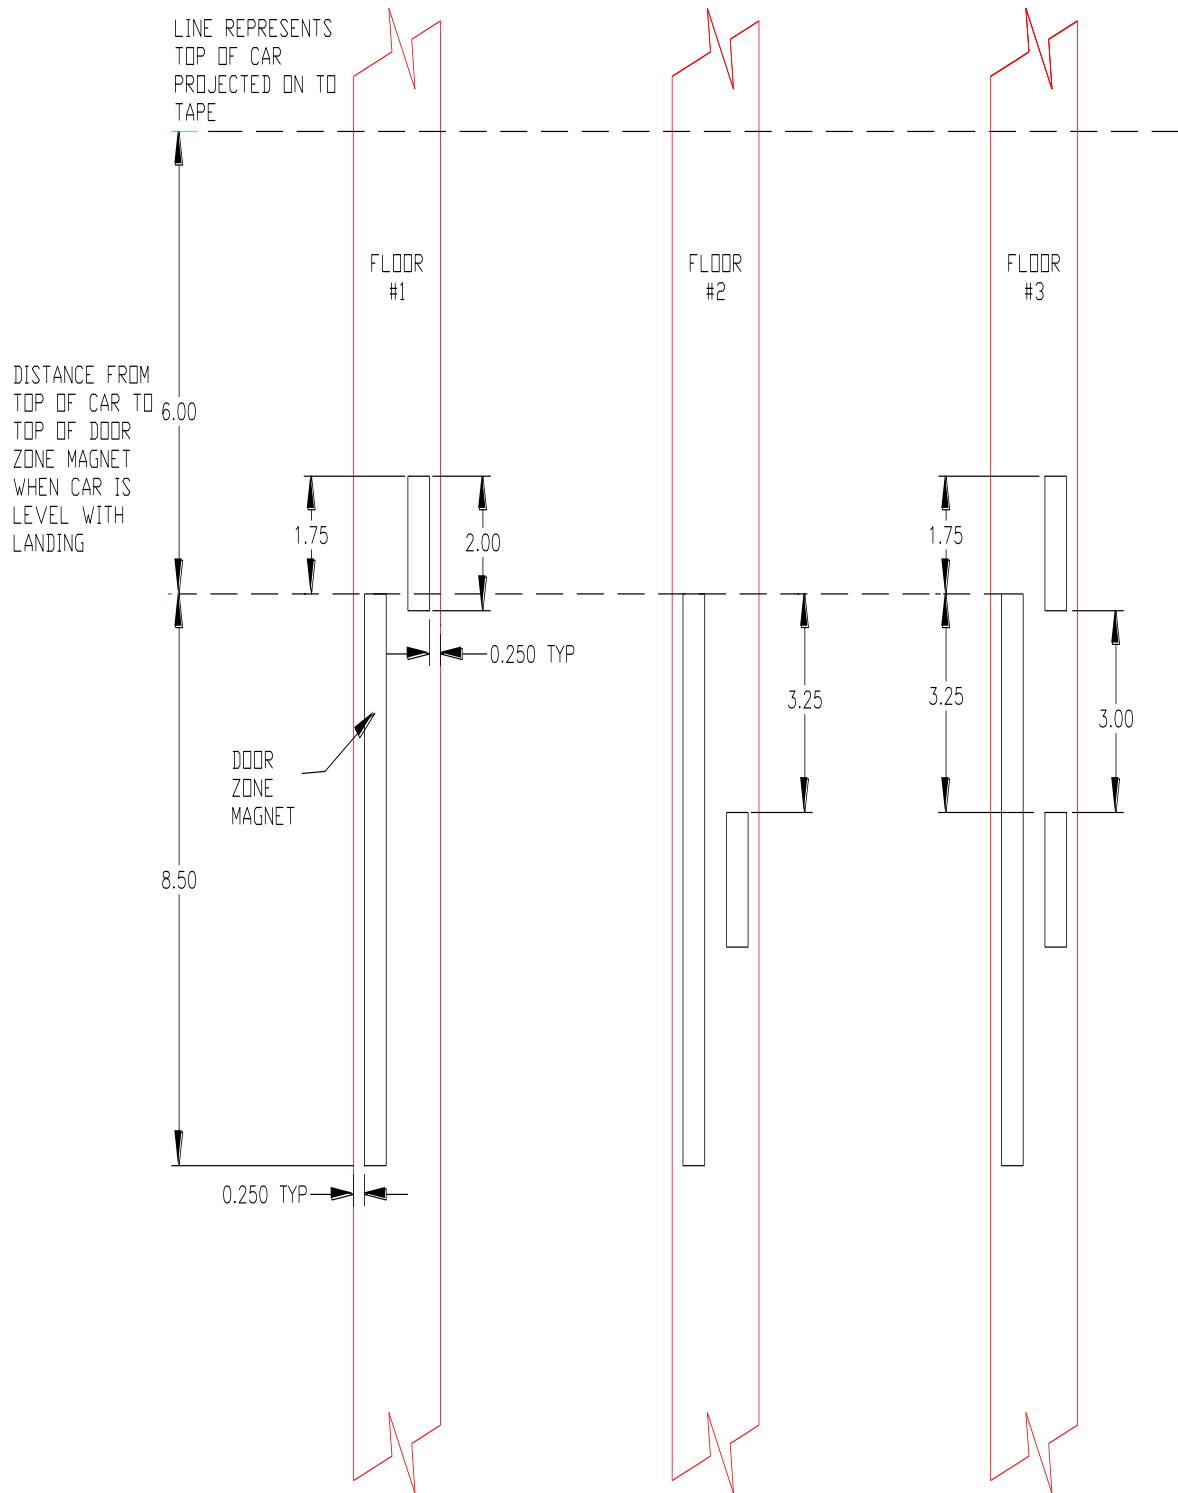
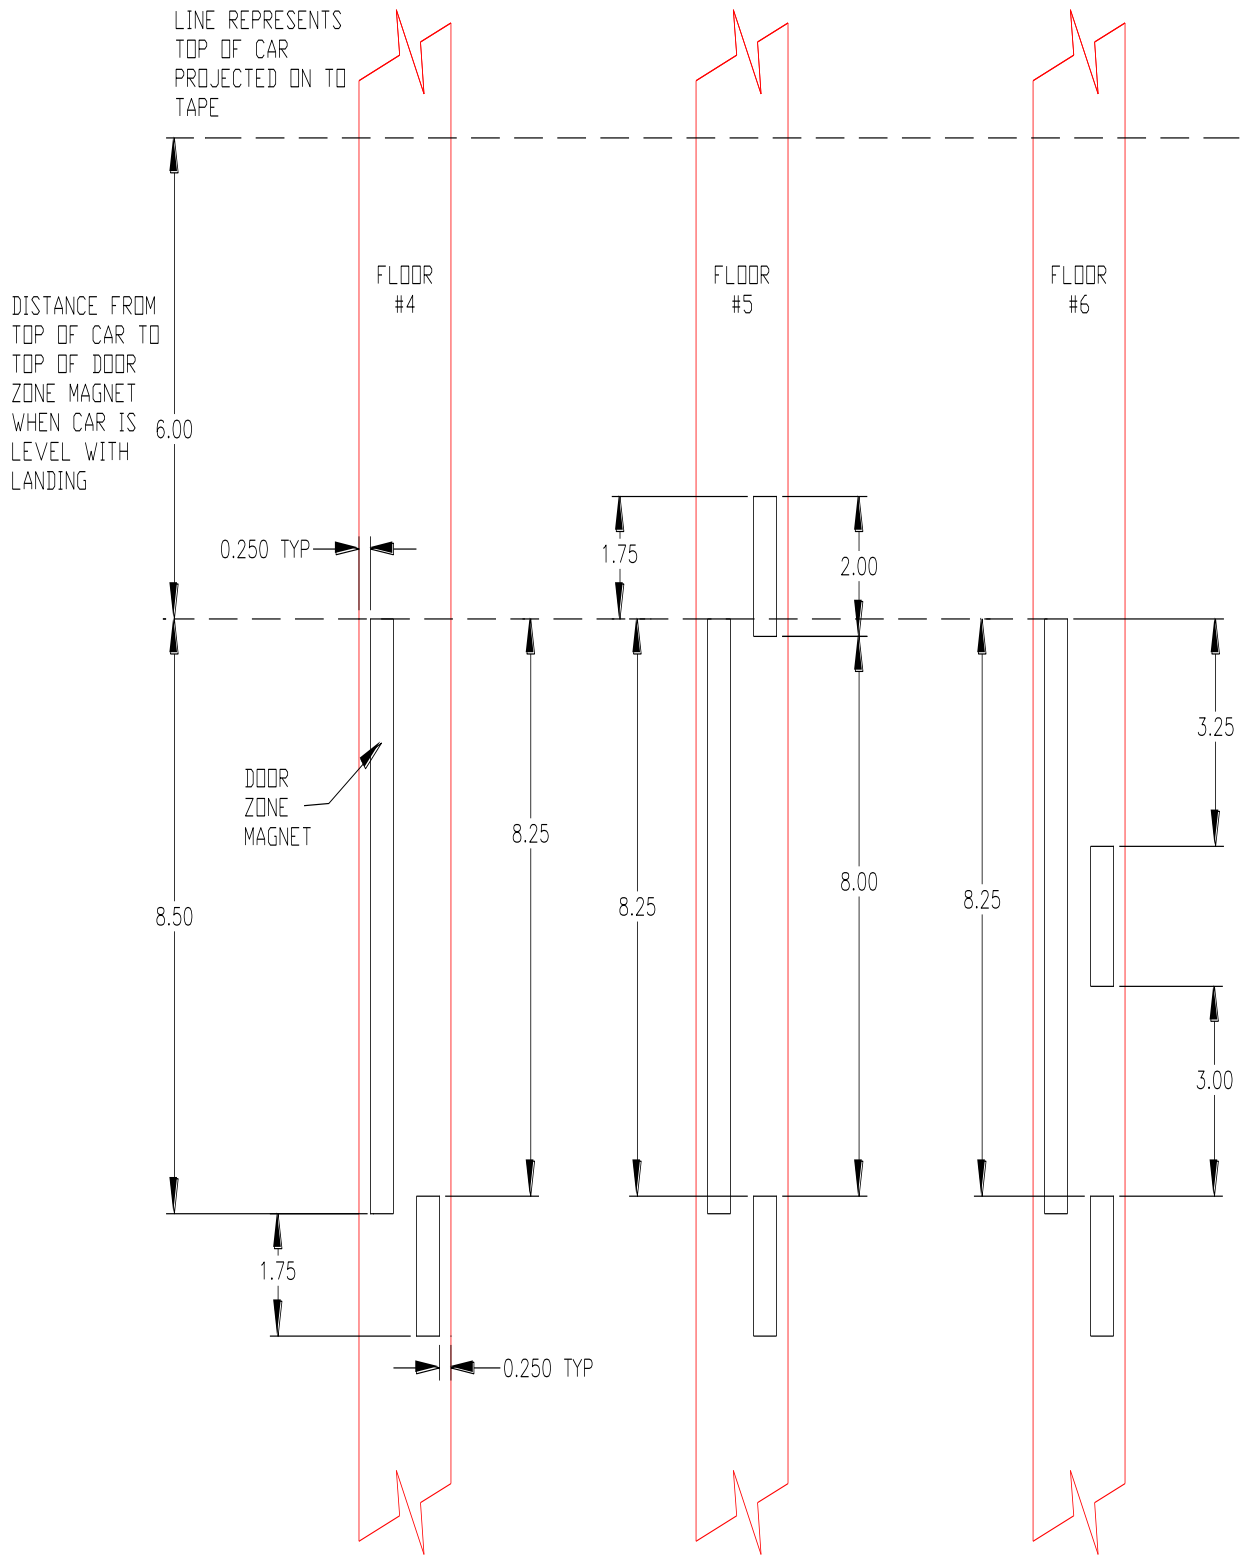

Figure 54 - Magnet Configurations Floors 1, 2, 3
Figure 55 - Magnet Configurations Floors 4, 5, 6
3. See Figure 54 & Figure 55 for magnet groupings per floor along with pertinent locating dimensions.
- c. Locate and install the magnets on the tape using Figure 54 & Figure 55.